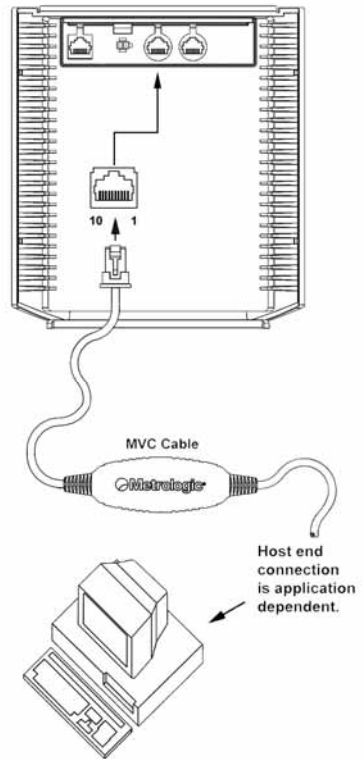

Figure 6: IBM 46xx Interface
2. Connect the MVC cable to the 10-pin IBM 46xx interface jack. It is the 1st **round** opening from the left side of the MS7320 (see figure 6).